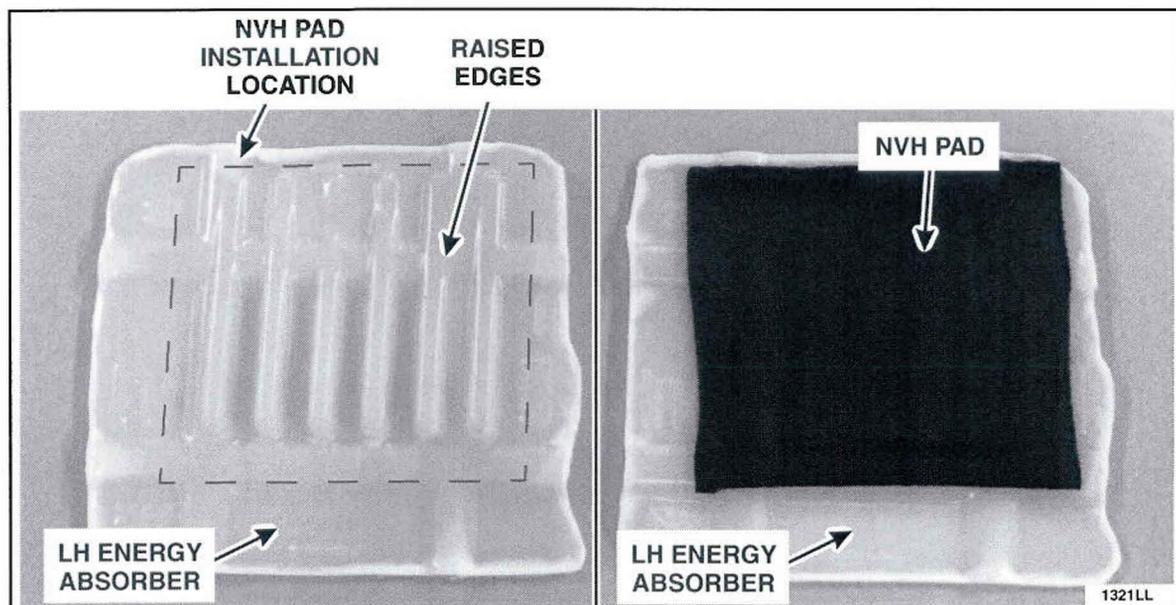

FIGURE 13
17. Remove the adhesive backing and apply the Noise/Vibration/Harshness (NVH) pads over the raised edges on the RH and LH energy absorbers. See Figure 13.